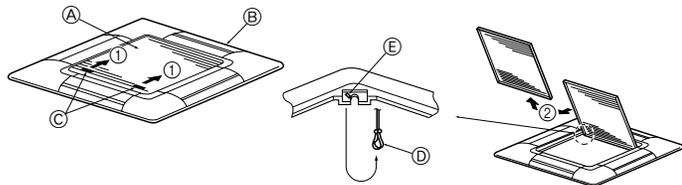

Fig. 8-3
8.2.1. Removing the intake grille (Fig. 8-3)
- Slide the levers in the direction indicated by the arrow ① to open the intake grille.
- With the intake grille in the "open" position, remove the hinge of the intake grille from the grille as indicated by the arrow ②.